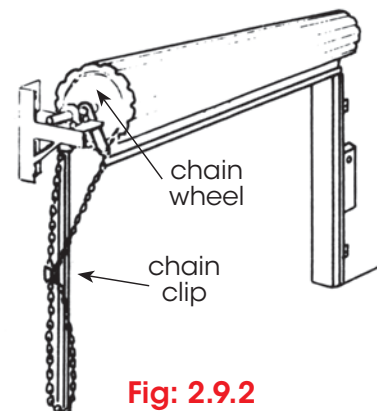

Fig: 2.9.2
- Secure both chains in the chain clip (**Fig 2.9.2**).